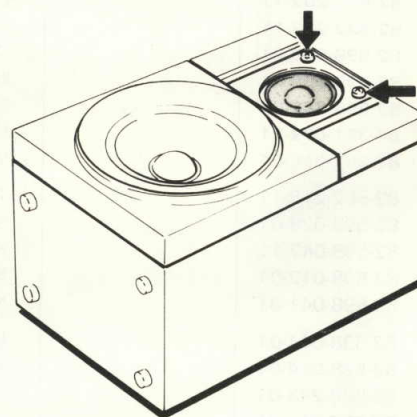

Fig. 14
3) Unfasten the two screws. (See figure 14)